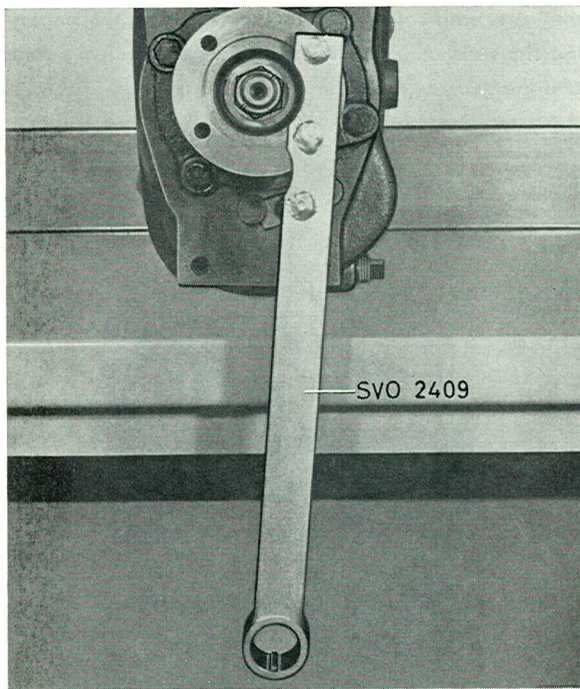
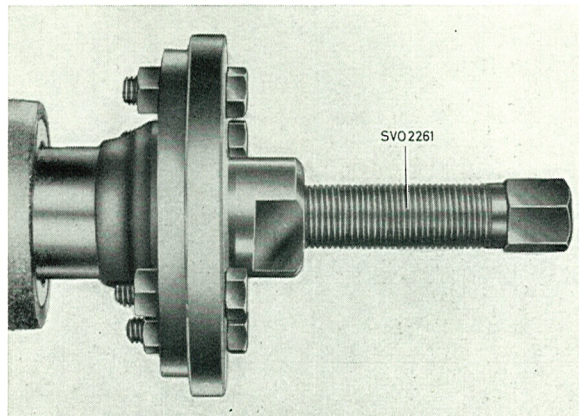

Fig. 4-22. Counterhold for yoke (flange)
Fig. 4-23. Removing the yoke (flange)
2. Slacken the yoke (flange) nut. USE SVO 2409 as a counterhold, see Fig. 4-22. Pull off the yoke (flange). Use puller SVO 2261, see Fig. 4-23.